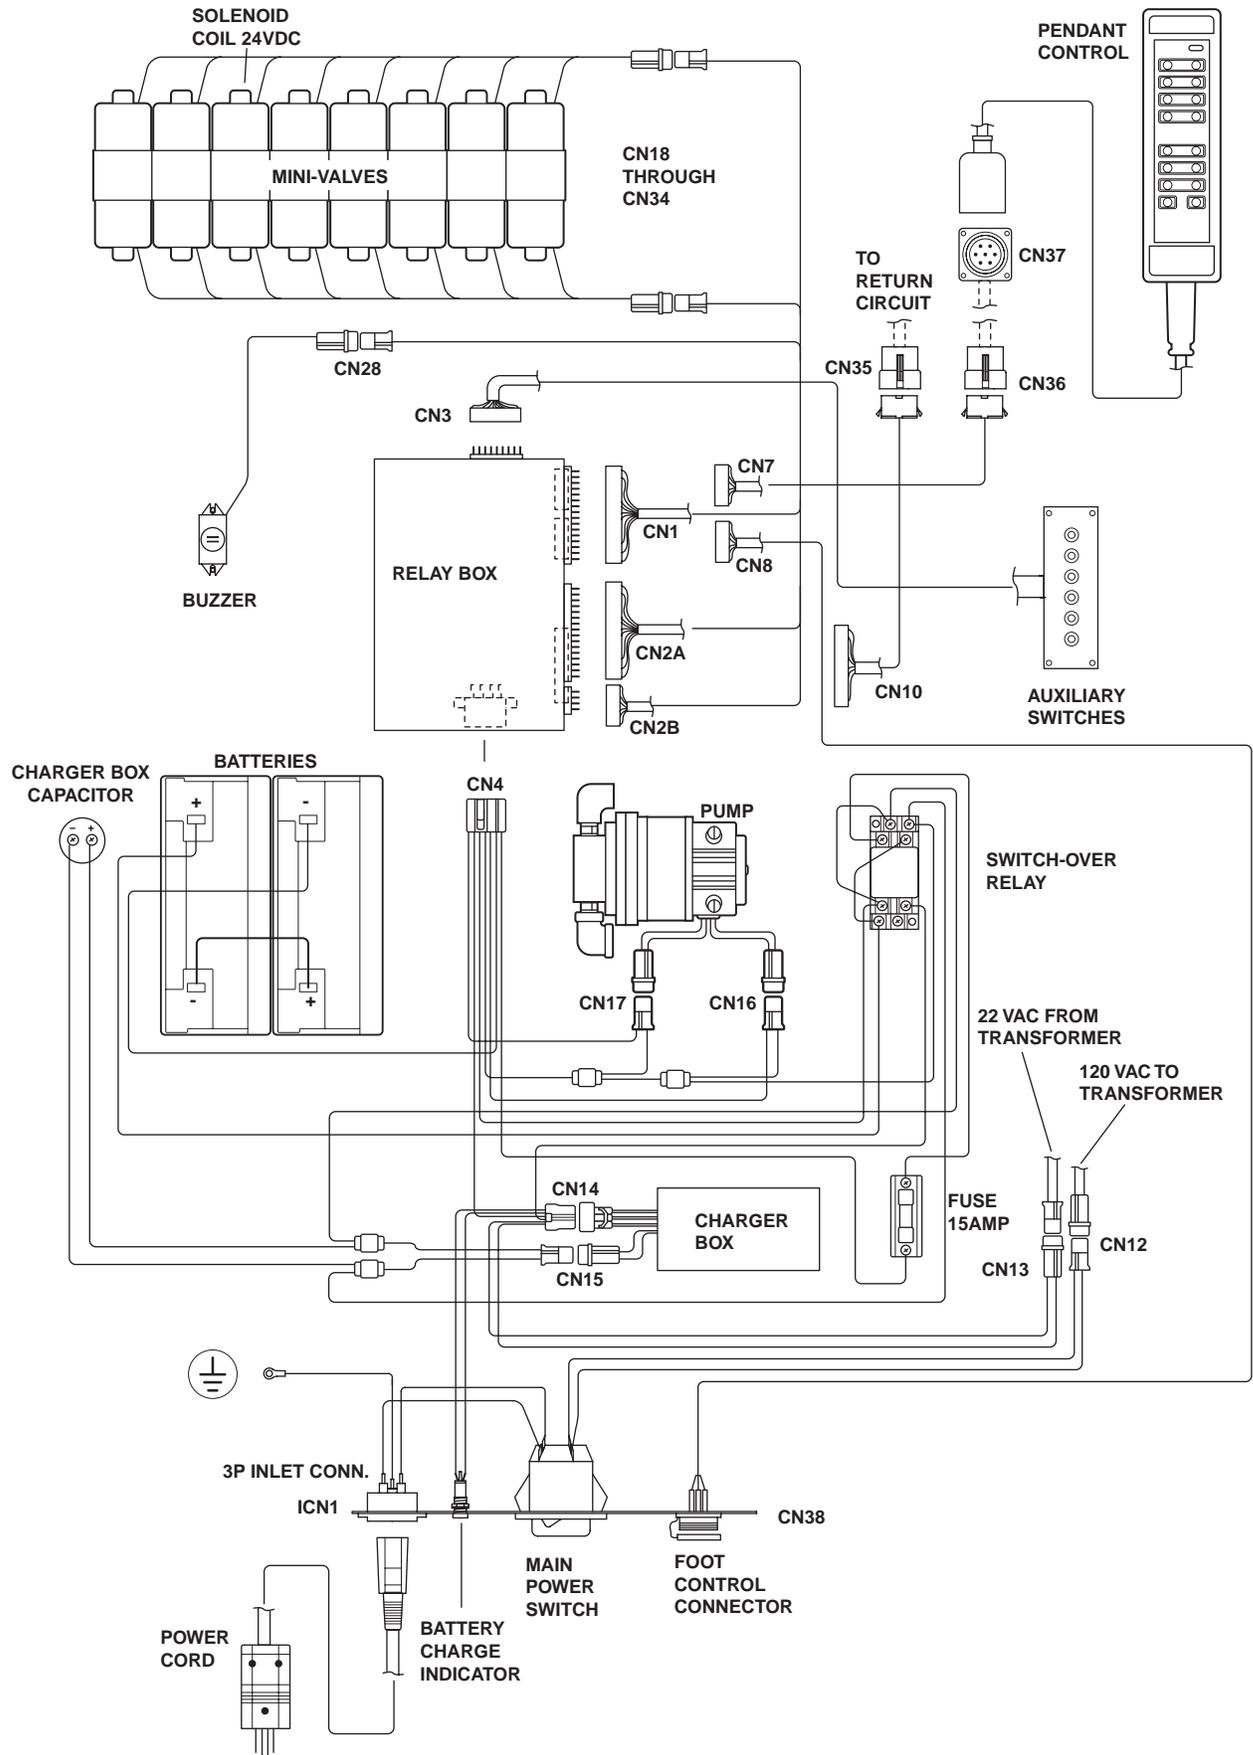

Figure 6-1. Electrical Circuit Block Diagram, Model 6600B
2. Disconnect connector CN12. See figure 6-1. Leave all other connectors connected.